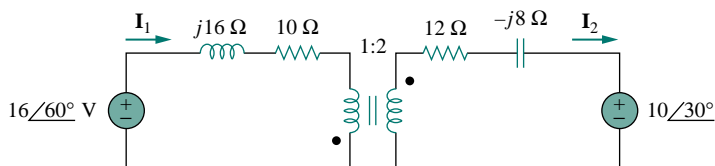

Figure 13.99 For Prob. 13.32.
- 13.32** (a) Find \mathbf{I}_1 and \mathbf{I}_2 in the circuit of Fig. 13.99 below. (b) Switch the dot on one of the windings. Find \mathbf{I}_1 and \mathbf{I}_2 again.